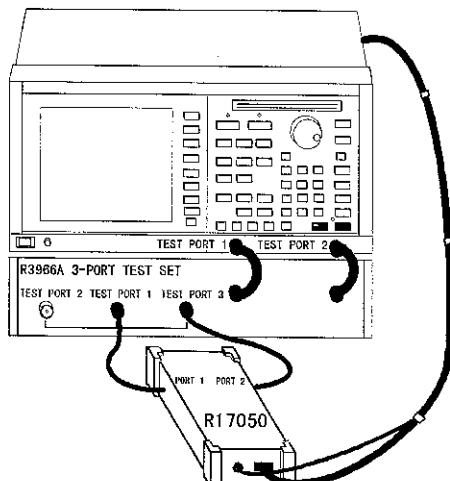

Figure 2-8 RF Port Connection
8. Connect the RF ports of the instrument to the test ports of the network analyzer (see Figure 2-8), using the cable that is actually used to measure the DUT.